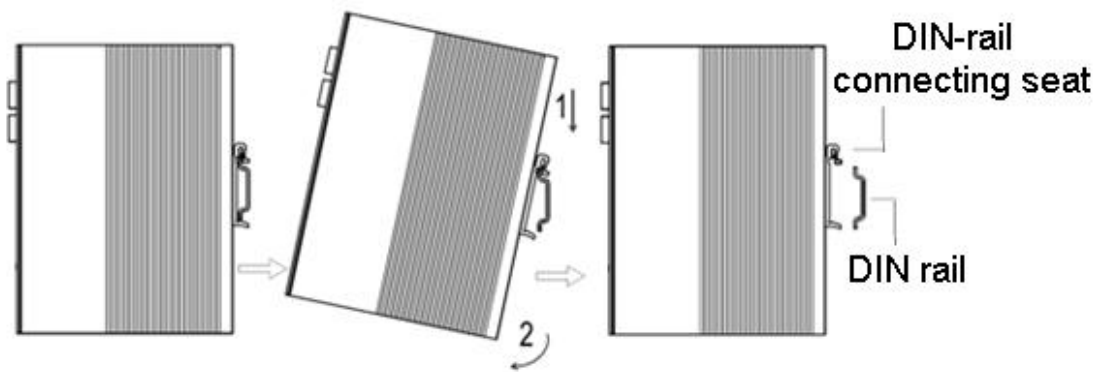

Figure 7 DIN-Rail Dismounting
Step 1: As shown in Figure 7, press the switch downward in the direction of arrow 1 to ensure adequate space at the bottom for detaching.